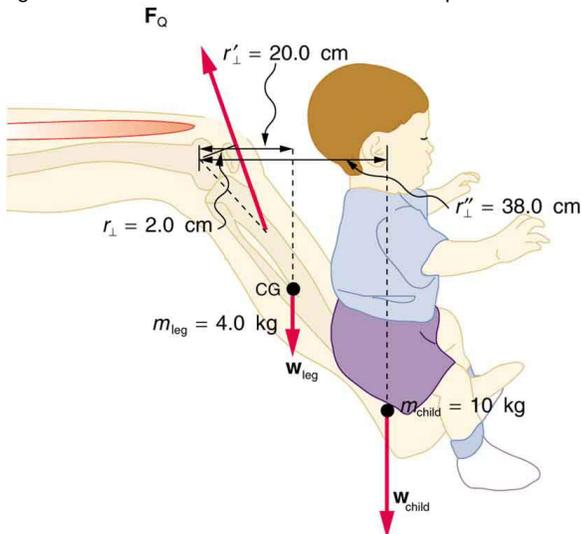

Figure 9.43 A child being lifted by a father's lower leg.
53. A father lifts his child as shown in **Figure 9.43**. What force should the upper leg muscle exert to lift the child at a constant speed?